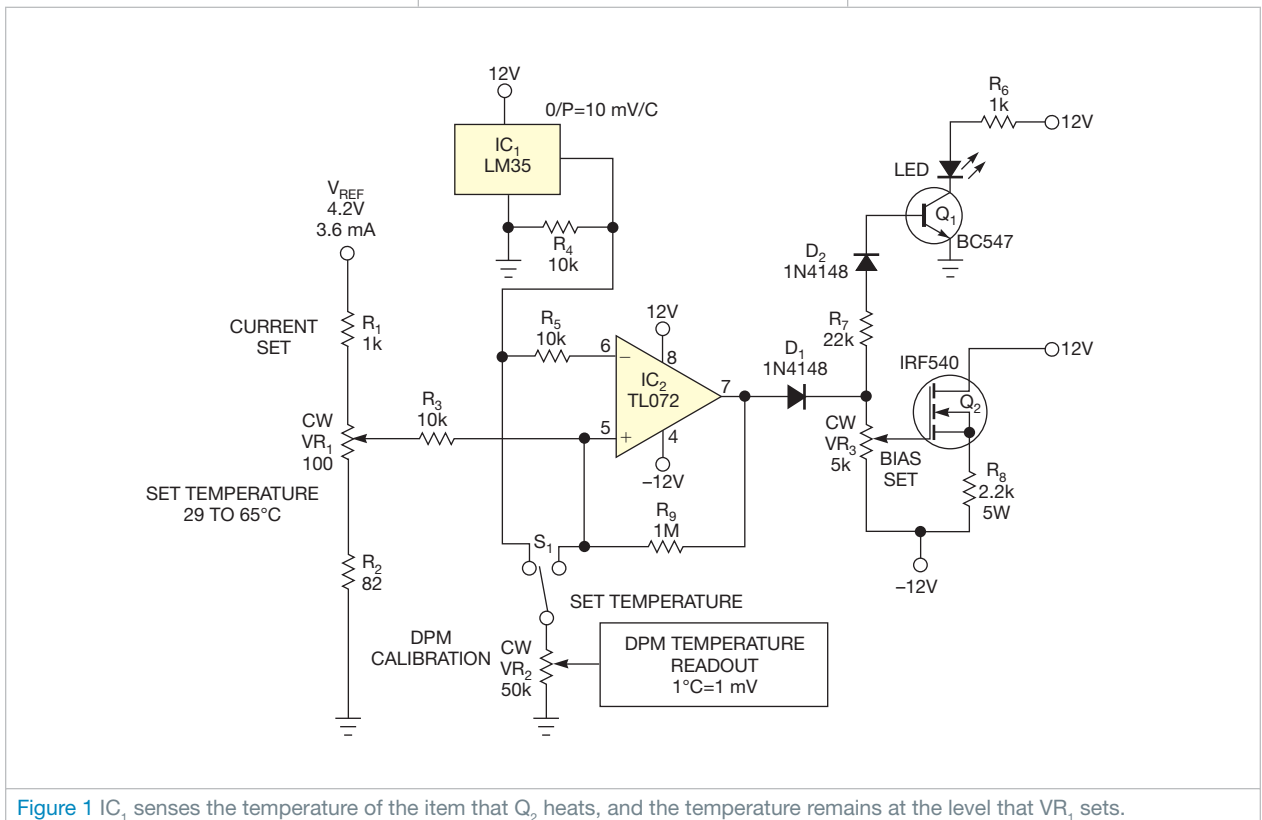

Figure 1 IC1 senses the temperature of the item that Q2 heats, and the temperature remains at the level that VR1 sets.
You can use an N-channel IRF540 MOSFET to directly heat and control the temperature of a biological sample from ambient to 45°C. **Figure 1** shows a simple on/off-type control circuit in which an LM35, IC1, is the temperature sensor, whose output a DPM
Many battery-powered systems require a visual indication when the battery needs replacement. LEDs often serve as the indicator, but they can draw as much as 10 mA of current. This excessive current drain unduly accelerates the battery's discharging and curtails the battery's useful life. **Figure 1** uses a sampled-data technique to lower the monitor circuit's average power consumption. The circuit draws 5  $\mu\text{A}$  of standby current and 30  $\mu\text{A}$  during low-battery indication.
**Figure 1** Instead of continuously draining the battery, this monitor circuit samples the inputs to achieve power consumption of 5  $\mu\text{A}$  in standby and 30  $\mu\text{A}$  during low-battery indication.